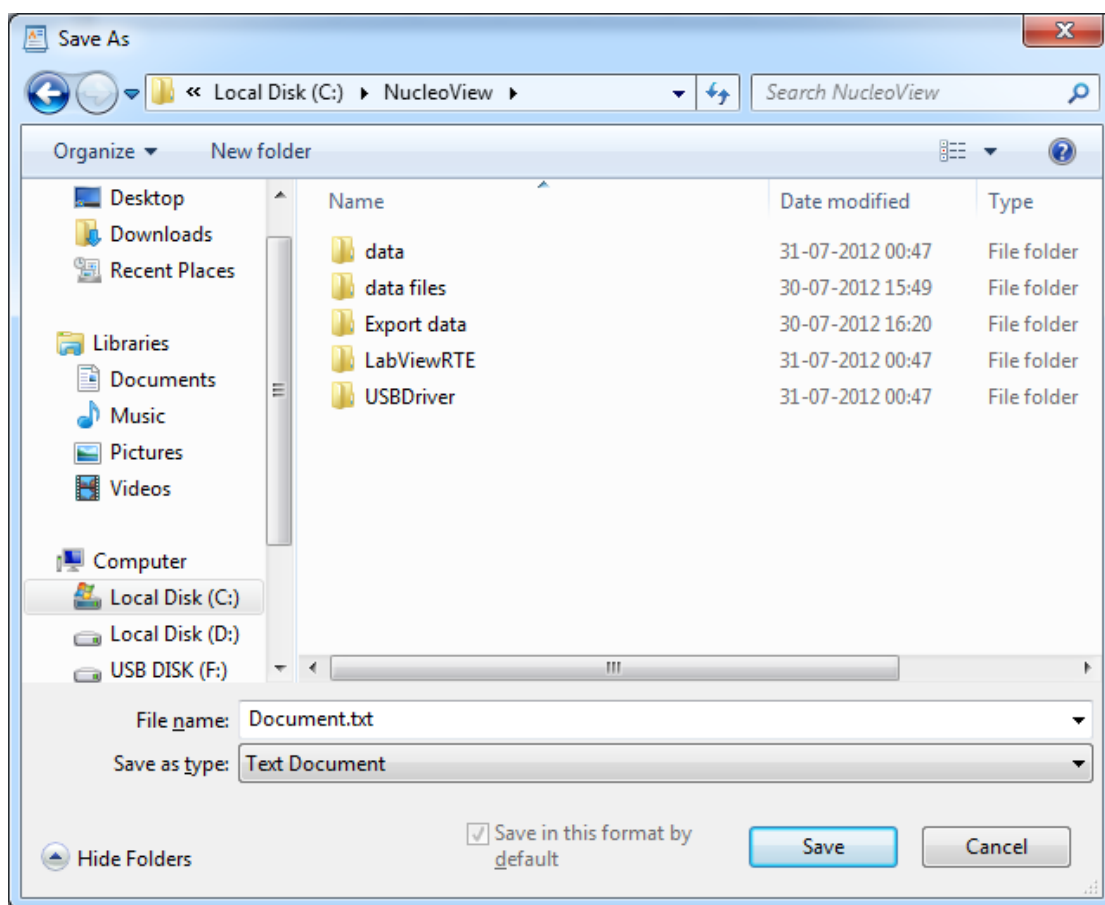

Figure 42 The dialogue shown when setting up the font for WordPad.
1. Open WordPad and select “Save as” from the File menu. The dialogue shown in figure 42 appears.